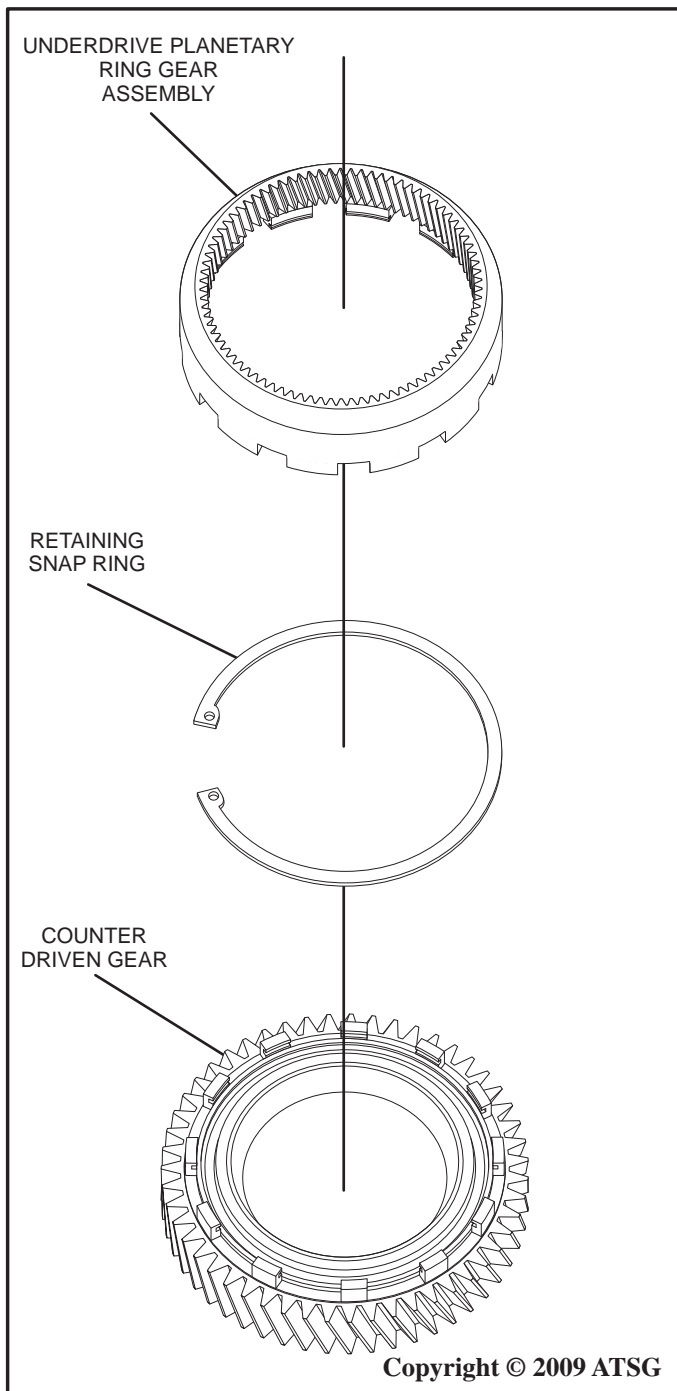

Figure 73
6. The underdrive planetary ring gear can be removed from the counter drive gear by removing the snap ring as shown in Figure 73, however it is not necessary to remove unless there is damage to the underdrive planetary ring gear or counter drive gear.